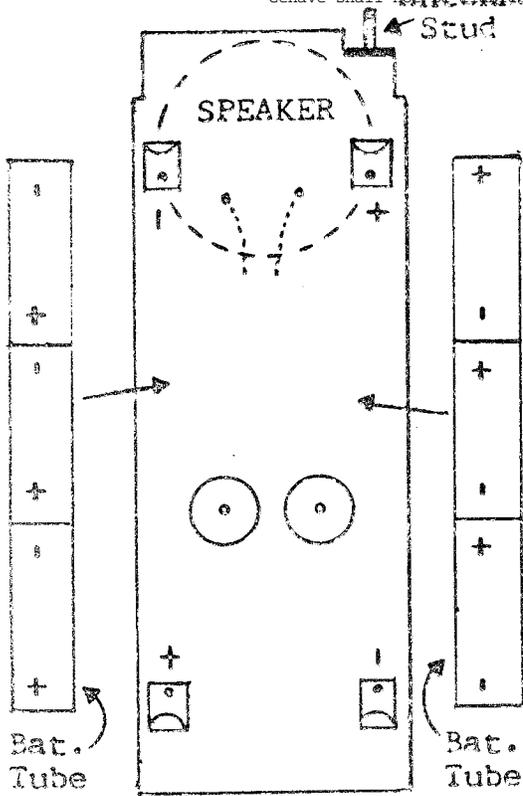

Figure 2-2. Battery Location
4. Insert three batteries in each of the two phenolic battery tubes furnished with the radio (Figure 2-2).
5. Insert battery tubes in place between appropriate battery clips on transceiver PC board. PROPER BATTERY POLARITY IS SHOWN IN FIGURE 2-2, AND IS MARKED ON PC BOARD.
**NOTE:** When front cover is removed, speaker is only held in place on PC board by adhesive tape; thus, during battery installation, speaker can be removed, if desired. To re-install speaker, locate leads approximately as shown in Figure 2-2. BE SURE terminals do NOT touch coil cans or shields.